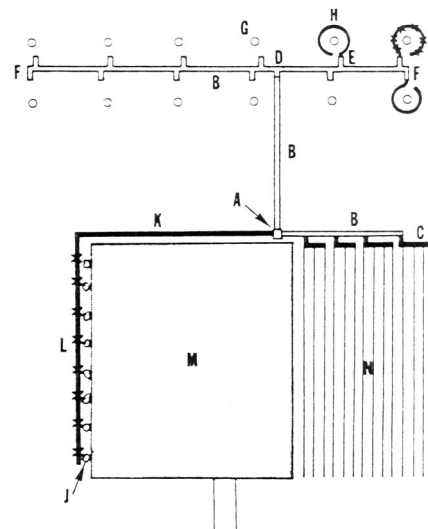
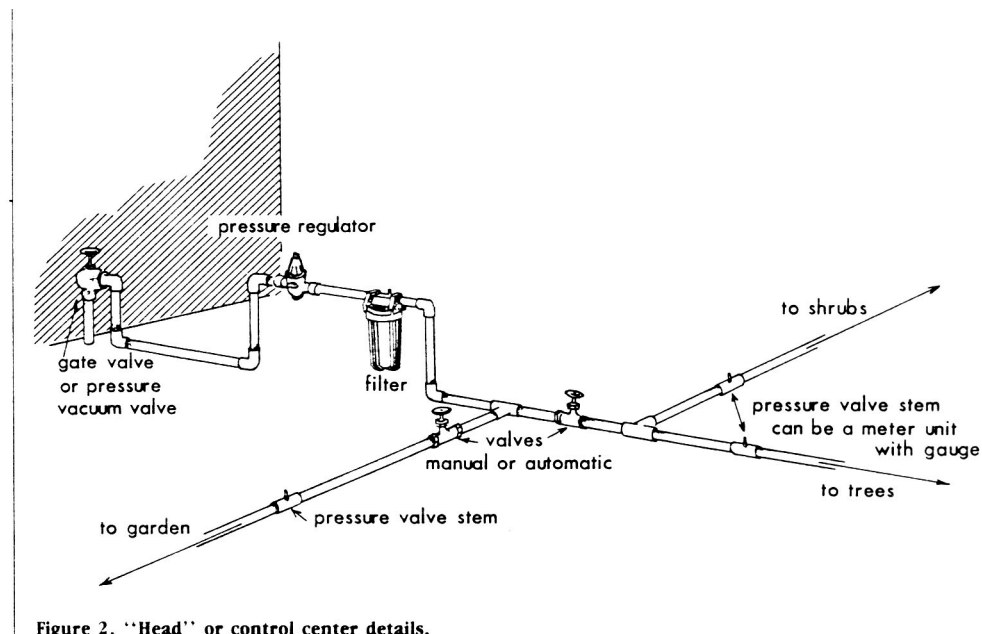

Figure 1. Example layout of a home drip system.
Figure 2. "Head" or control center details.
A drip system has three parts (fig. 1), the head (A), which includes controls and a filter; (B) a transmission system of plastic pipe or hose; and (C) the emitters.
The head (fig. 2), includes an on-off valve and a regulating device to reduce the pressure from 40 to 80 pounds per square inch (psi) to the low pressure of 10 to 20 psi for drip systems. If both a vegetable garden and trees or shrubs are to be watered, separate valves will be needed because different flow rates, pressures, and watering times are required. The head must also contain a filter to screen out particles that might clog emitters, it should also have one or more pressure-measuring devices to help in adjusting the pressure regulator.
First, make a diagram of your property to scale. Figure 1 is an example. Draw in the house and garage (M), driveway, sidewalks, and any other permanent features. Locate all trees (G) and plants U) that you intend to drip irrigate and the position of your present or planned garden (N). Locate the source of water you will use (A).
IDENTIFICATION OF COMPONENTS IN FIGURE 1
In figure 1, there are 12 trees (G) with six 1 gallon per hour (1 gph) emitters per tree at 15 psi. The flow needed at D is 1.2 gpm because $12 \text{ trees} \times 6 \text{ gph} - 60 \text{ min/hr} = 1.2 \text{ gpm}$. The table shows that a 1/2-inch main line (B) will be sufficient.
Techniques for installing the relatively simple system in figure 1 are described in this leaflet. Professional help is recommended for more complicated situations. Check your local city codes for requirements for anti-backflow devices and their locations.
The lot in figure 1 is 90 by 120 feet, with a 40 by 50 foot house (M). It has 12 fruit trees (G) in back, 8 shrubs (J) on the left side of the house, and a 30 by 50 foot garden space on the right (N). Details of the head (A) are shown in figure 2. The main line (B) will be 1/2-inch PVC, buried about 8 inches. PVC tees (E) and elbows (F) have internal barbs and provide places to connect the PE feeder hose (H) on which individual emitters (D) are placed. Feeder hoses of 1/2-inch PE (H, K, and C) are laid on the ground or buried 2 or 3 inches. These hoses are closed at the ends by folding back 4 inches of hose and slipping a length of PVC pipe over the fold like a napkin ring. This allows quick opening to flush the system once a month.